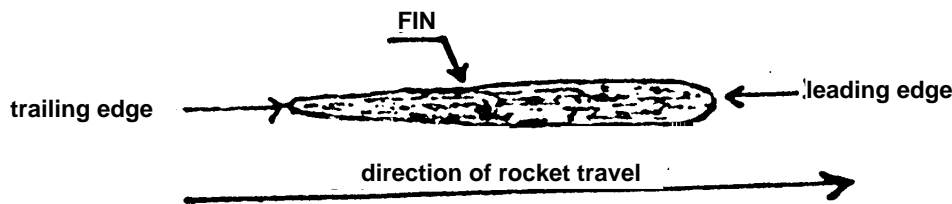

Figure 4. A simple rocket model
- Before you cut your fins, be sure the grain of the wood is going the right way. Your instructions will tell you which way is right. Then sand the front edge to make it rounded and sand the trailing edge of the fin to a sharp point (see Figure 4).